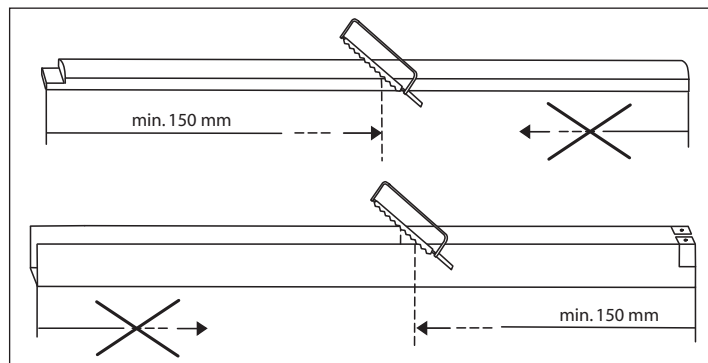

Figure 4
- Trim the end element (3) as needed according to the drawing (figure 4).
- Place the mounting rail (1 / 2) and end element (3) to a planar ground.
Trim the acrylic optics end element as needed (figure 4).